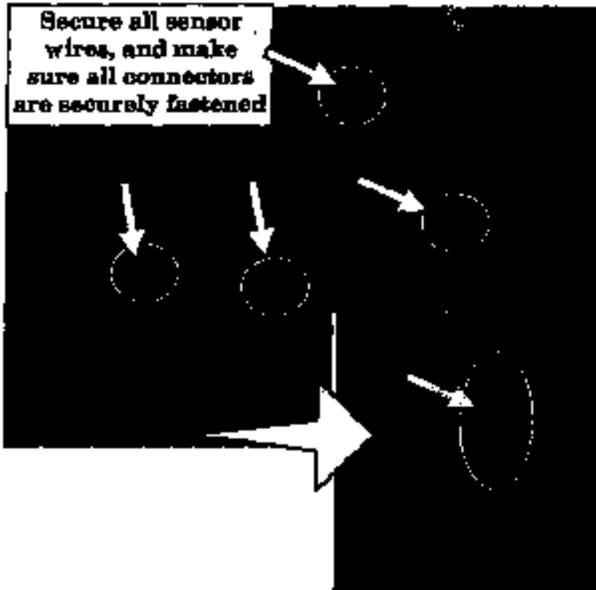

Figure 3: Front Wheel ABS Speed Sensor Wire
- Verify that cables are secured to the front brake air lines and axles at 6-in. (152 mm) intervals. (Figure 3)